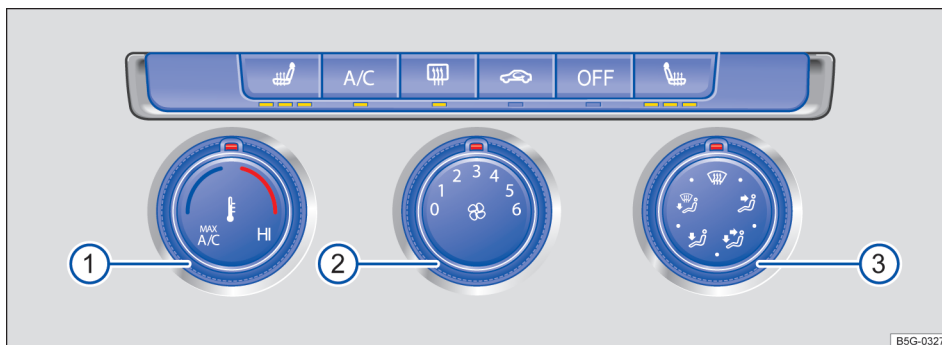
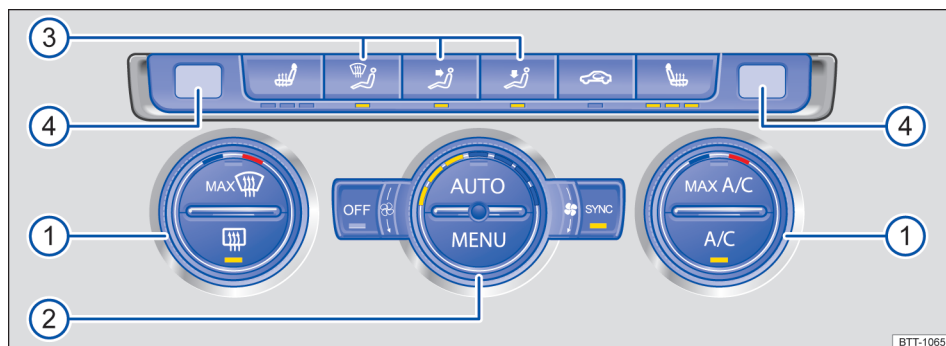

Fig. 88 In the center console: Manual controls.
Fig. 89 In the center console: Climatronic controls.
- *Manual air conditioning:* Turn the fan knob to 0 → fig. 88 ②.
– *Climatronic:* Turn the fan knob as far left as it will go → fig. 89 ②
- **OR:** Press the **(MENU)** button on the Climatronic controls → fig. 89 ② to open the Climatronic menu in the Infotainment system and switch the system off.
- **Manual air conditioning:** Turn the temperature knob → **fig. 88 ①** all the way to the left (**MAX A/C** position).
- **Manual air conditioning:** Turn the temperature knob → **fig. 88 ①** to set the temperature.
- **Climatronic:** Turn the outside knobs → **fig. 89 ①** to set different temperatures for the driver and passenger sides. The displays above the knobs **④** show the set temperature.
- Turn the middle knob → **fig. 88 ②** or → **fig. 89 ②** to adjust the fan speed.
- **Manual air conditioning:** Turn the knob → **fig. 88 ③** to direct air flow in the desired direction.
- **Climatronic:** Press the buttons → **fig. 89 ③** to direct air flow in the desired direction. When automatic regulation (**AUTO**) is switched on, air flow is automatically adjusted to a comfortable level. Options vary, depending on equipment:
- **Manual air conditioning:** Turn the right knob to position **🌨** → **fig. 88 ③** to defrost the windshield as quickly as possible. The cooling system switches on automatically to dehumidify the air. When the defrost function is switched on, the air recirculation mode cannot be switched on.
- **Climatronic:** Press the **MAX 🌨** button → **fig. 89 ①** to defrost the windshield as quickly as possible. The incoming outside air is directed to the windshield, and air recirculation automatically switches off. Humidity is removed from the air at temperatures above about +35 °F (+1.5 °C), and the blower is set to a high speed.